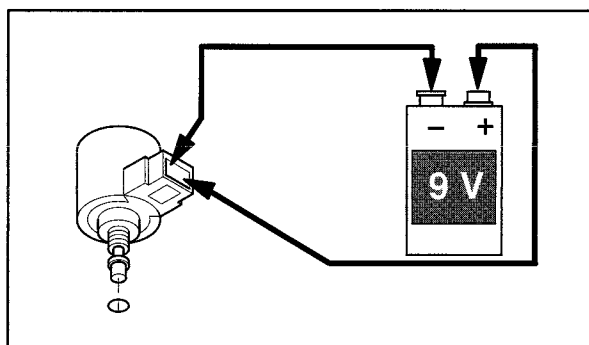

Fig. 39
3. Place another jumper wire on the remaining pin in the solenoid connector and on the other terminal on the battery, Fig. 39.